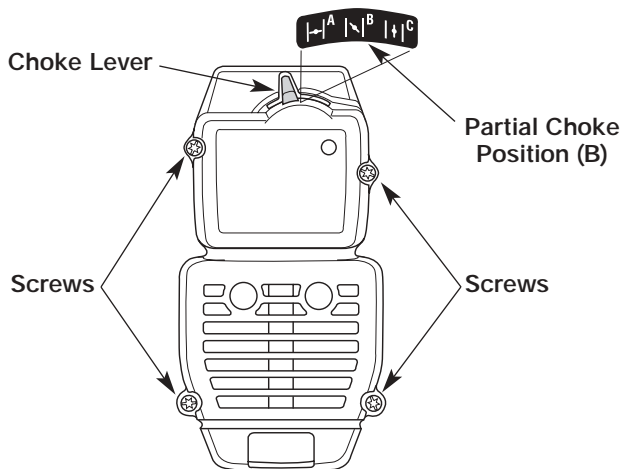

FIGURE 33
1. Place the choke lever in the PARTIAL choke position (B), Figure 33.
**NOTE:** The choke lever must be in the **PARTIAL choke position (B)** to remove the air filter/muffler cover, Figure 33.
2. Remove the four (4) screws securing the air filter/muffler cover, Figure 33. Use a flat blade or #T20 Torx bit screwdriver.
2. Insert the four (4) screws into the holes in the air filter/muffler cover and tighten, Figure 33. Use a flat blade or #T20 Torx bit screwdriver. Do not over-tighten. Do not force.